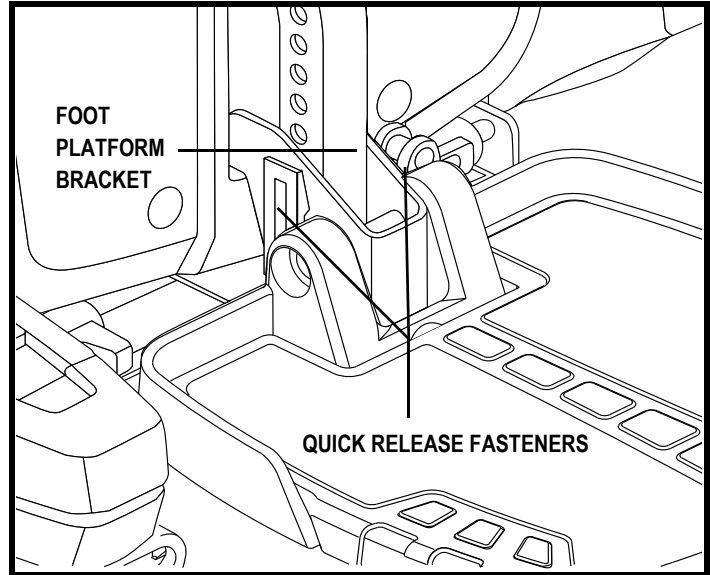
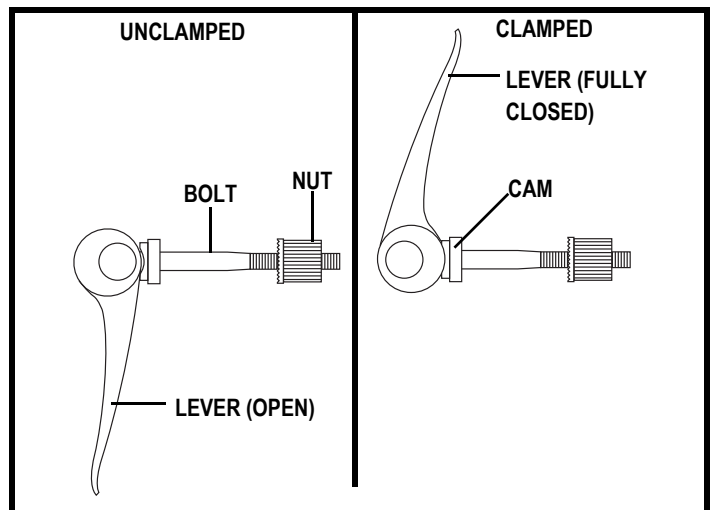

Figure 20. Foot Platform Adjustment
Figure 21. Quick Release Fastener Operation
1. Remove the quick release fasteners from the foot platform bracket. See figure 20.
Quick Release Fasteners: The foot platform is attached to the power base with two quick release fasteners. See figure 20. Each quick release fastener consists of a bolt, a lever, and a nut. See figure 21. The lever has a cam on the end that allows it to clamp into place. The quick release fastener has two states: clamped and unclamped. When the lever is open, the quick release fastener is unclamped. When the lever is closed, the quick release fastener is clamped.